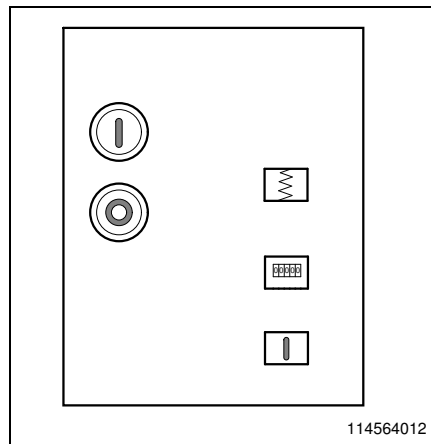

Fig. 21
- The position indicator shows "I" (Fig. 21).
- The switch-on accumulator display shows the relieved spring (Fig. 21).